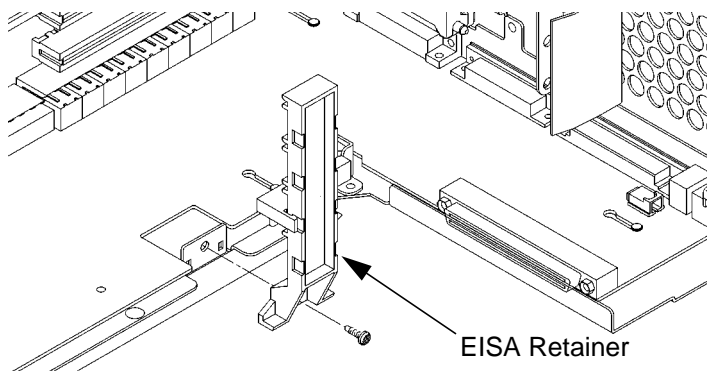

Figure 41
- 2 Press the fan release clip and rotate the fan, as shown in Figure 41.
- 3 Remove the screw from the EISA retainer, and remove the EISA retainer, as shown in Figure 41.